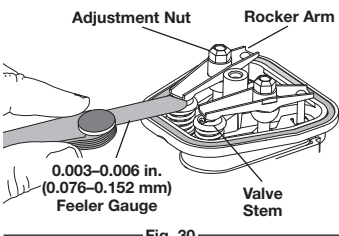

Fig. 30
6. Slide the feeler gauge between the rocker arm and the valve return spring. Measure the clearance between the valve stem and rocker arm (Fig. 30). Measure both the intake and exhaust valves.
The recommended clearance for both intake and exhaust is 0.003 – 0.006 in. (0.076 – 0.152 mm). Use a standard automotive 0.005 in. (0.127 mm) feeler gauge. The feeler gauge should slide between the rocker arm and valve stem with a slight amount of resistance, without binding. See Figure 30.
- a. Turn the adjusting nut using a 5/16 inch (8 mm) wrench or nut driver (Fig. 30).